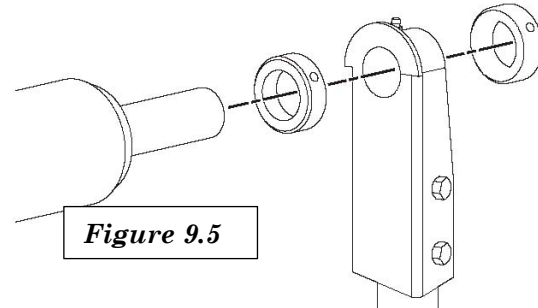

Figure 9.5
8. After the button head screws are installed, secure (3) 3/8" x 1-1/4" self threading bolts thru the roll tube and adaptor. Drill 21/64" pilot holes evenly spaced between the button head bolts and thread bolts in.
10. Refer to **Figure 9.5**. Slide a shaft collar and the rear swing-arm onto the adapter shaft at the rear of the trailer. Re-check the pivot box face for plumb (Straight). Place the shaft collar 1/4" from the swing-arm bushing and tighten. Loosen the set screw and slide the collar away to see the set screw marking and drill a small divot with a 5/16" drill bit. Reposition collar so the set screw will go into the divot. Apply Loctite to the set screw and fully tighten to secure the lock collar.